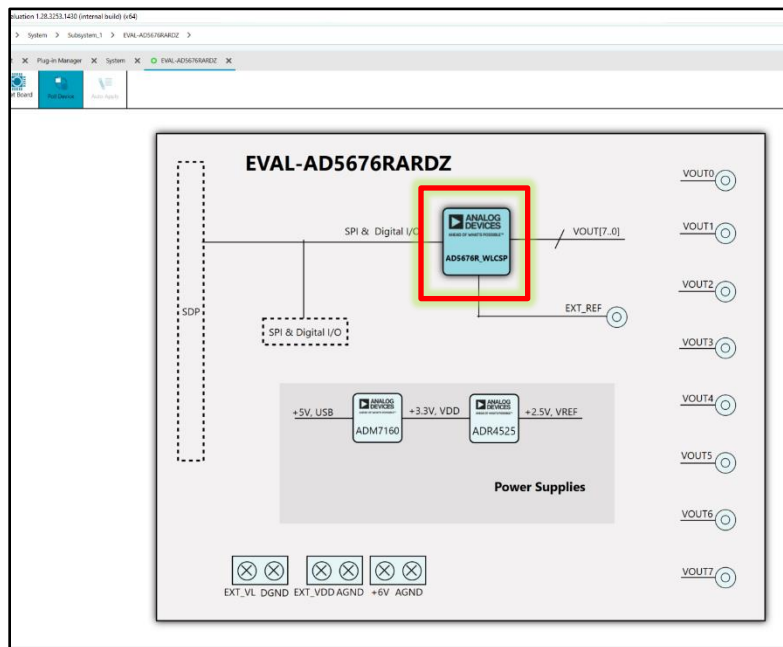

Figure 17
- Figure 17 will show up, double-click the AD5676R chip image.